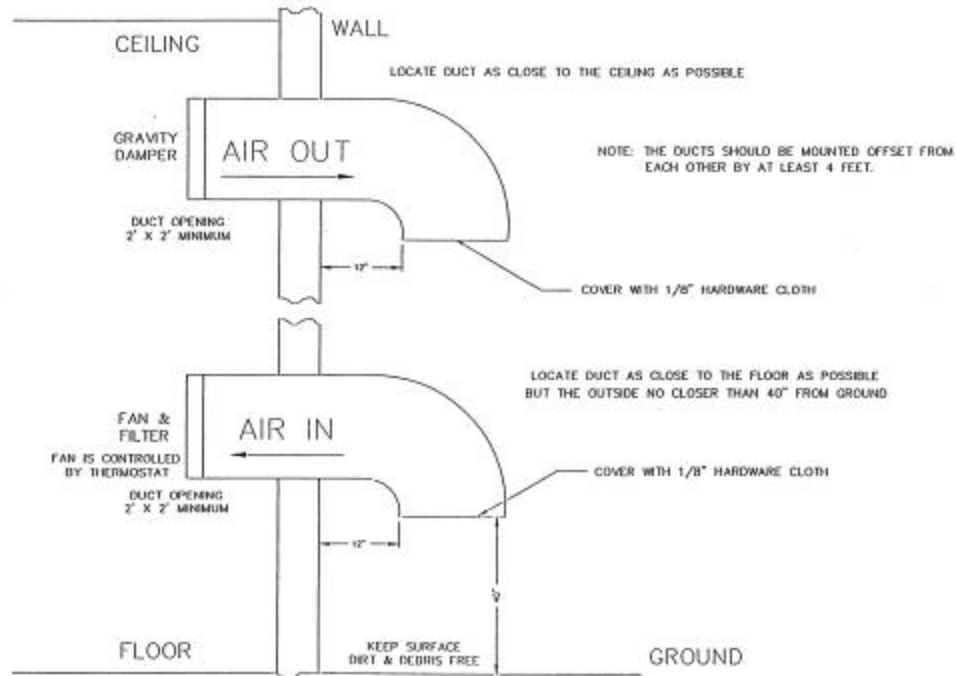

Figure 3-1. 1 kW Minimum Ventilation Configuration
| <p>5. The exhaust should be located as high as possible. Some ducting is usually required to insure the complete flushing of heated air with no stagnant areas.</p> <p>6. The filter area must be large enough to insure a maximum air velocity of 300 feet per minute through the filter. This is not a conservative number but a never-exceed number. In a dusty or remote location, this number should be reduced to 150 CFM.</p> <p>7. The inlet and outlet(s) must have automatic dampers that close any time the ventilation blower is off.</p> <p>8. In those cases in which translators are regularly off for a portion of each day, a temperature-differential sensor that controls a small heater must be installed. This sensor will monitor inside and outside temperatures simultaneously. If the inside temperature falls to within 5° F of the outside temperature, the heater will come on. This will prevent condensation when the ventilation blower comes on and should be used even in the summer.</p> <p>9. A controlled-air bypass system must be installed to prevent the temperature in the room from falling below 40° F during translator operation.</p> <p>10. The blower should have two speeds, which are thermostatically controlled, and be interlocked with the translator.</p> <p>11. The blower on high speed must be capable of moving the required volume of air into a half inch of water pressure at the required elevation. The free air delivery method must not be used.</p> | <p>12. Regular maintenance of the filters, if used, can not be overemphasized.</p> <p>13. Above 4000 feet, for external venting, the air vent on the cabinet top must be increased to an 8-inch diameter for a 1-kW translator and to a 10-inch diameter for 5-kW and 6-kW translators. An equivalent rectangular duct may be used but, in all cases, the outlet must be increased by 50% through the outlet screen.</p> <p>14. It is recommended that a site plan be submitted to Axcera for comments before installation begins.</p> <p>In calculating the blower requirements, filter size, and exhaust size, if the total load is known in watts, 2000 CFM into ½ inch of water will be required for each 5000 watts. If the load is known in BTUs, 2000 CFM into ½ inch of water will be required for each 17,000 BTUs. The inlet filter must be a minimum of seven square feet, larger for dusty and remote locations, for each 5000 watts or 17,000 BTUs. The exhaust must be at least four square feet at the exhaust screen for each 5000 watts or 17,000 BTUs.</p> <p>The information presented in this section is intended to serve only as a general guide and may need to be modified for unusually severe conditions. A combination of air conditioning and ventilation should not be difficult to design (see Figure 3-1).</p> <p>System interlocking and thermostat settings should be reviewed with Axcera. As with any equipment installation, it is always good practice to consult the manufacturer when questions arise. Axcera can be contacted at (724) 873-8100</p> |